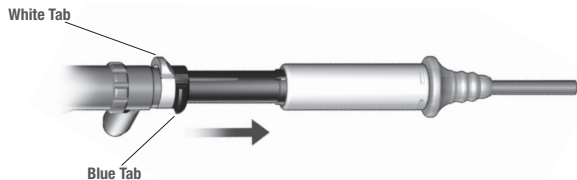

Figure 12
b. With the other hand, push the **blue tab** on the blue collar forward (Figure 12) until it locks into the **“EXTENDED”** position shown in Figure 11.